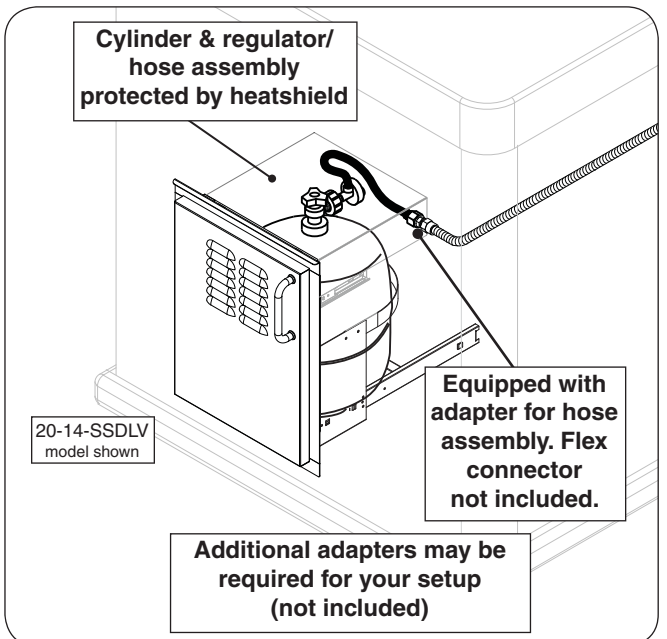

Fig. 11-3 Optional RHP door w/ tank tray
- **AOG offers propane tank door with tank tray models and a propane tank heatshield that rests directly on the tank to meet the cylinder install requirements. Propane tank door with tank tray shown in Fig. 11-3. Contact your dealer for ordering information.**